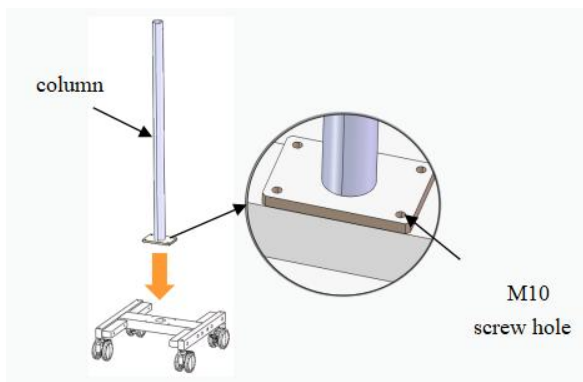

Figure 11.1.2 Column Assembly
- 2) Place the column on the crossbar, align it with the center hole as shown in Figure 11.1.2, and use the included No. 8 Allen wrench to lock the four M10 screws.